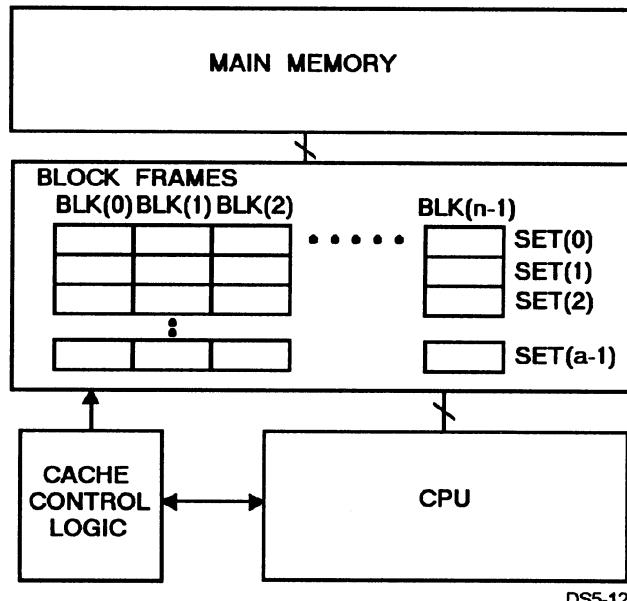

Figure 5-12.—Example of set association mapping used in cache memory.
- **Set associative mapping** —Set associative cache mapping combines the best of direct and associative cache mapping techniques. As with a direct mapped cache, blocks of main memory data will still map into a specific set, but they can now be in any N-cache block frames within each set (fig. 5-12).